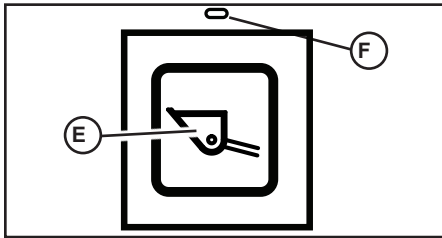

Fig. 45 - Self-Leveling Cancel Button
To deactivate self-leveling, press the self-level cancel button (E, Fig. 45) on the control pad. To restore self-leveling, press button (E) again.